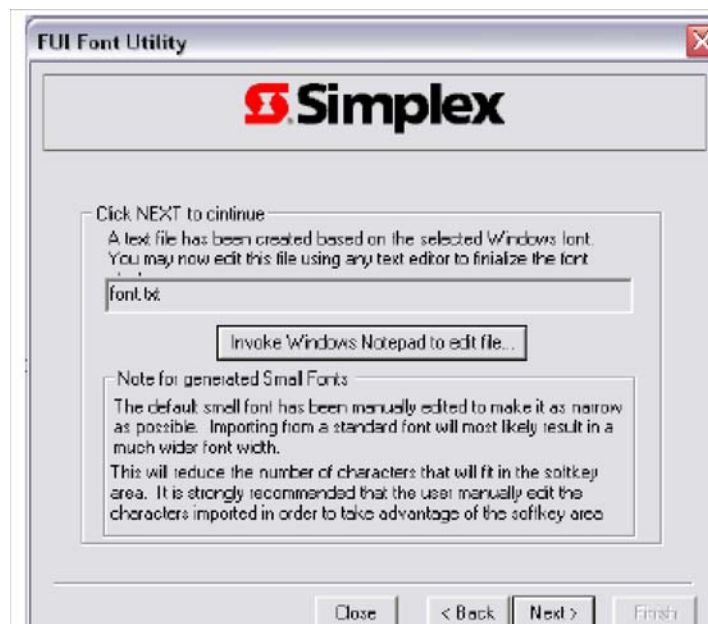
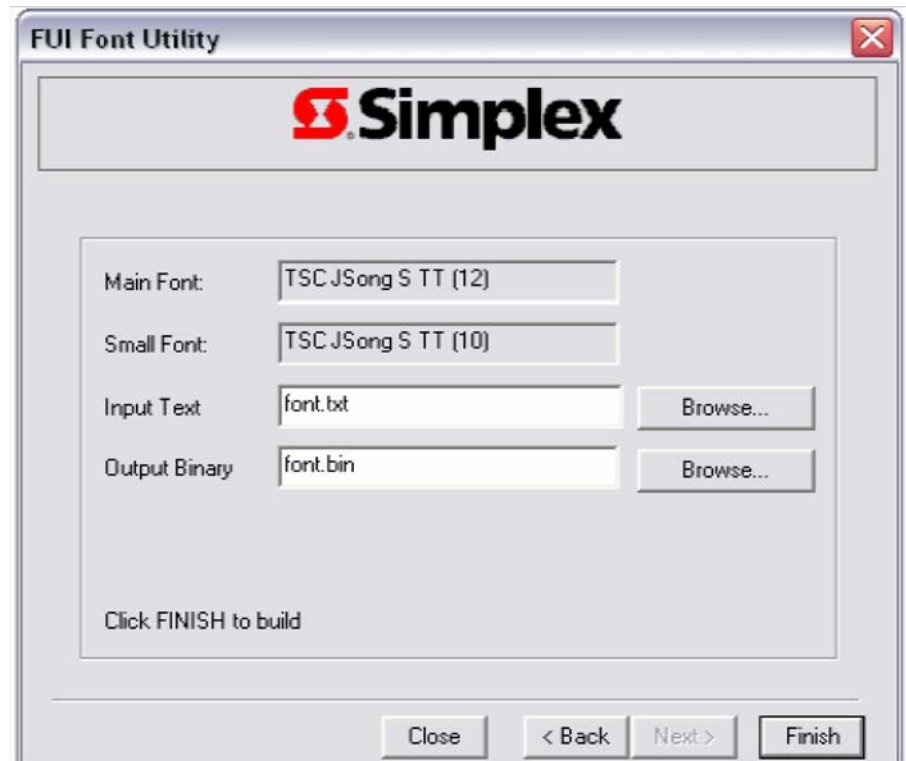

Figure 14-16. Invoking Windows Notepad Screen
Figure 14-18. Building Binary Font File
8. Click **Next** to continue. A screen similar to the one shown in Figure 14-16 appears.
After closing Notepad, the screen shown in Figure 14-16 reappears. Click Next to continue. The screen shown in Figure 14-18 appears. This screen allows you to build a binary font file, which is the file used to alter the panel's message library file, from a text font file.